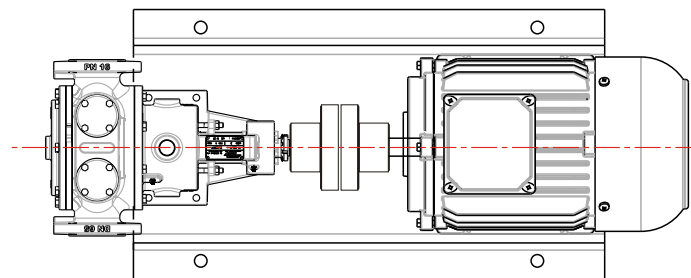

Figure 7: Correct mounting
Carefully shield the coupling between the pump and motor. (see Figure 7)
- When connecting the motor with the pump, you must make sure that the pump shaft and the motor shaft are on precisely the same centre line and that there are a few mm between the shaft ends. (See Figure 7)